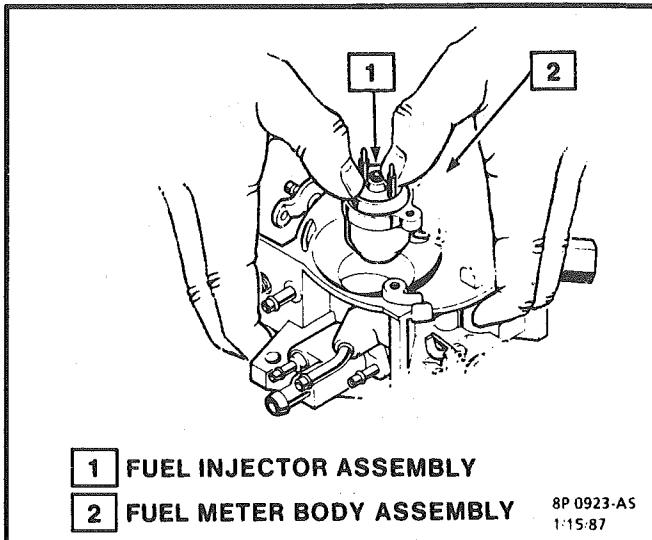

Figure C2-13 - Installing Fuel Injector
4. Injector, aligning raised lug on each injector base with notch in fuel meter body cavity. Push down on injector until it is fully seated in fuel meter body (Figure C2-13). (Electrical terminals of injector should be parallel with throttle shaft.)